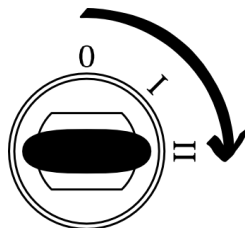

Figure 13 - Hold the key to position II until the engine starts.
2. on page 42) and then to position II when the light of the glow plugs turn off (Figure 13 - Hold the key to position II until the engine starts. on page 43).